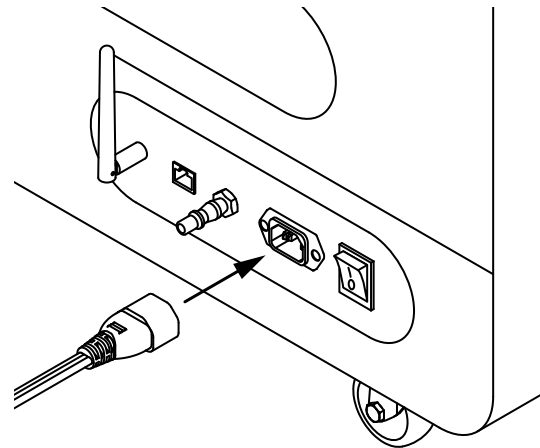

Fig. 2.1 Connecting the power cord to the power socket.
1. Connect the printer to a power source (fig. 2.1). Power socket is located on the back of the printer.